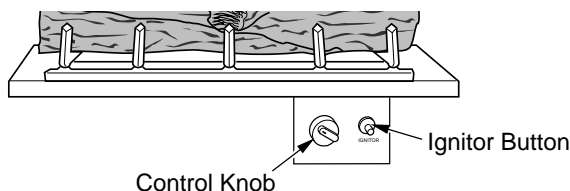

Figure 29 - Control Knob and Ignitor Button Location
3. Turn control knob clockwise  to the OFF position. (see Figure 29, page 16)
4. Wait five (5) minutes to clear out any gas. Then smell for gas, including near the floor. If you smell gas, **STOP!** Follow "B" in the safety information starting in column 1. If you don't smell gas, go to the next step.
5. Slightly depress and turn control knob counterclockwise  to the PILOT position. Press in control knob for five (5) seconds (see Figure 29, page 16).